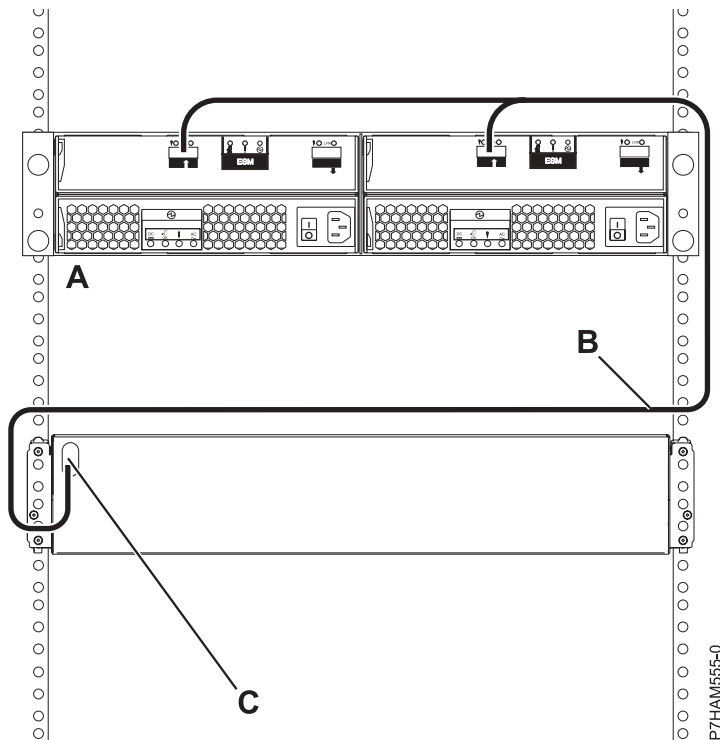

Figure 32. Connection of one 5886 disk drive enclosure by using a YI cable to a system with support for a single SAS drawer
8. Perform the connection of one 5886 disk drive enclosure (A) by using a YI cable (B) to a system with support for a single SAS drawer (C) as shown in Figure 32 on page 72.